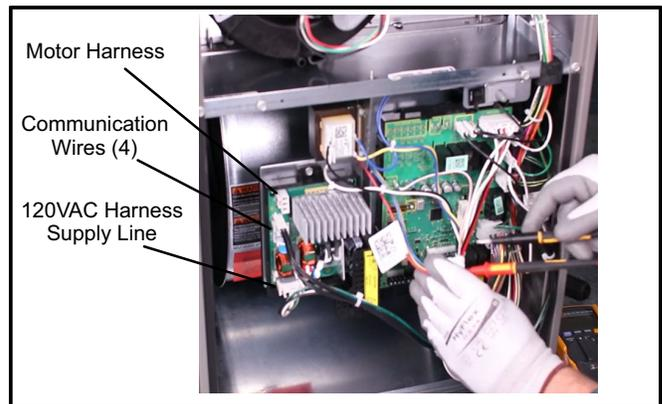

FIGURE 1
- 1 - Remove the motor harness from from the blower drive. See TEST A and figure 1.
- 1 - Measure the resistance between each of the three motor leads (3-pin plug) and the chassis ground. See figure 1.